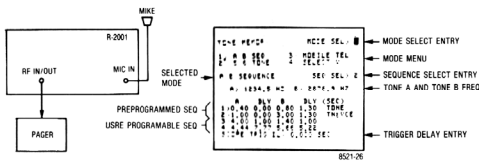

Figure 4-9. Test Setup for Two-Tone Pager and Alert Functions with CRT Display
- Test two-tone pager decode and alert function, and demonstrate simultaneous modulation (Figure 4-9)